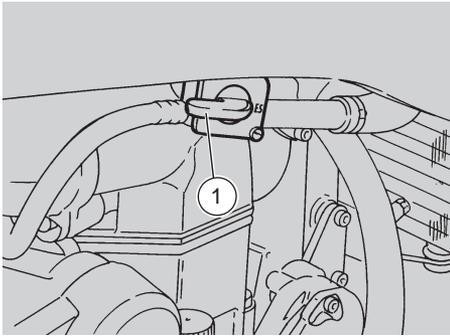

Fig. 36
REMOVING THE FUEL TANK (Fig. 36 ÷ 38)
- ◆ Turn the fuel tap lever to the "OFF" position (1-Fig. 36).